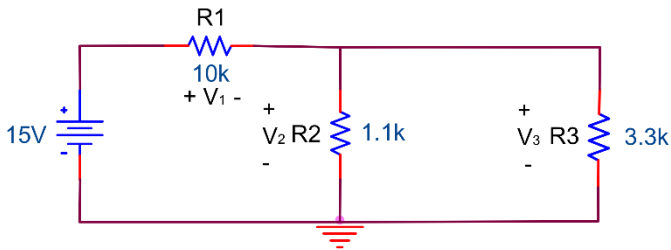
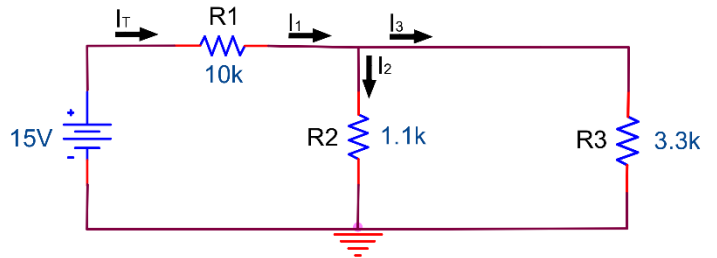

Figure 3.3
Figure 3.4
3. Calculate all voltages and currents in Figure 3.3 and Figure 3.4.